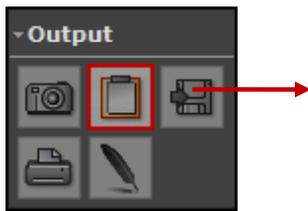

Fig. 265 Create new report with template
**Create new template.** Press  or go to [File] → [New], input file name, paper size and paper orientation information in the [New File] dialog and users will see a screen similar to Fig. 265. Another way to create a new file is to click the [+] icon in the 'Template' section at the bottom left corner of the screen.